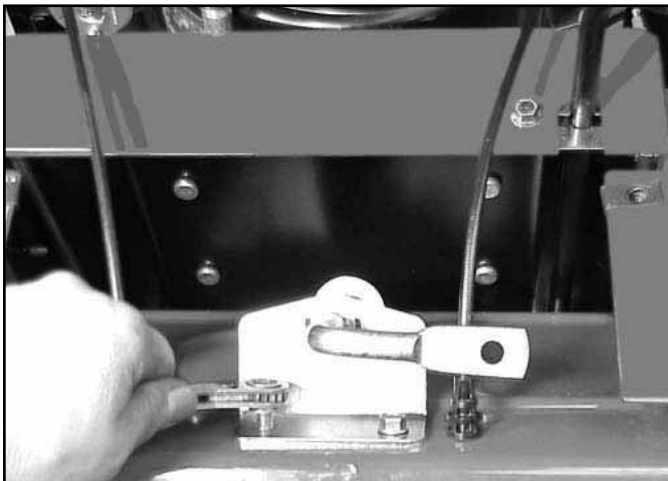

Fig 131 MVC-859X.jpg
15. Remove the two screws from the shift rod bracket and remove the traction control lever and bracket assembly from the friction wheel (Fig. 131 and 132).